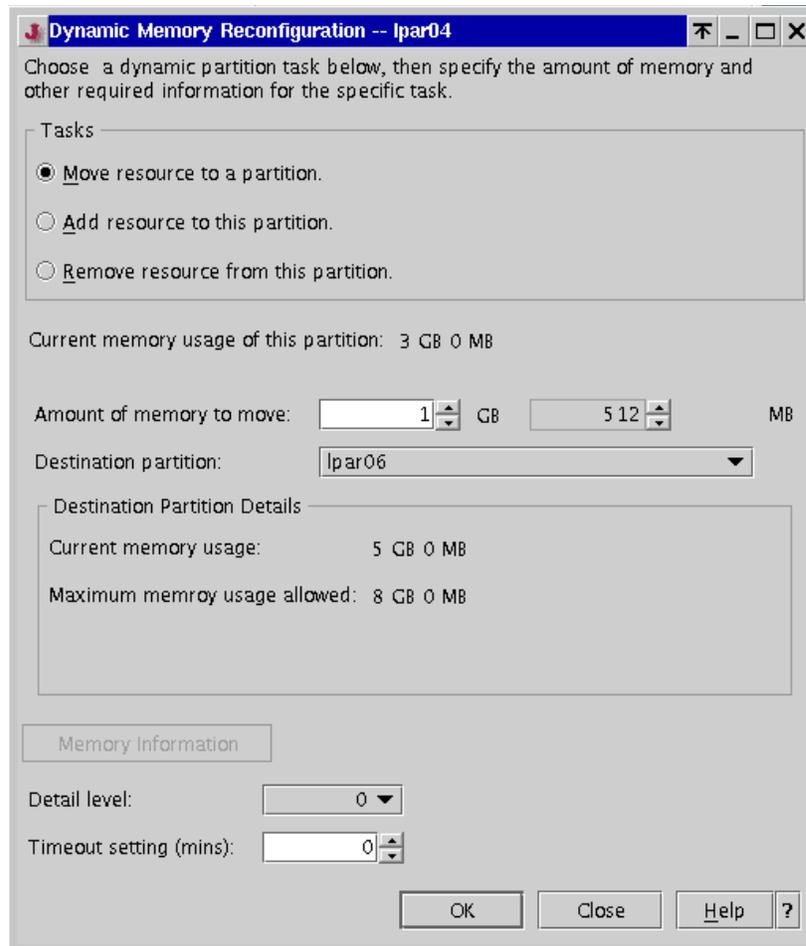

Figure 8-6 Dynamic memory reconfiguration between partitions
8. The Dynamic Memory Reconfiguration window opens. Select **Move resource to a partition**, as shown in Figure 8-6.